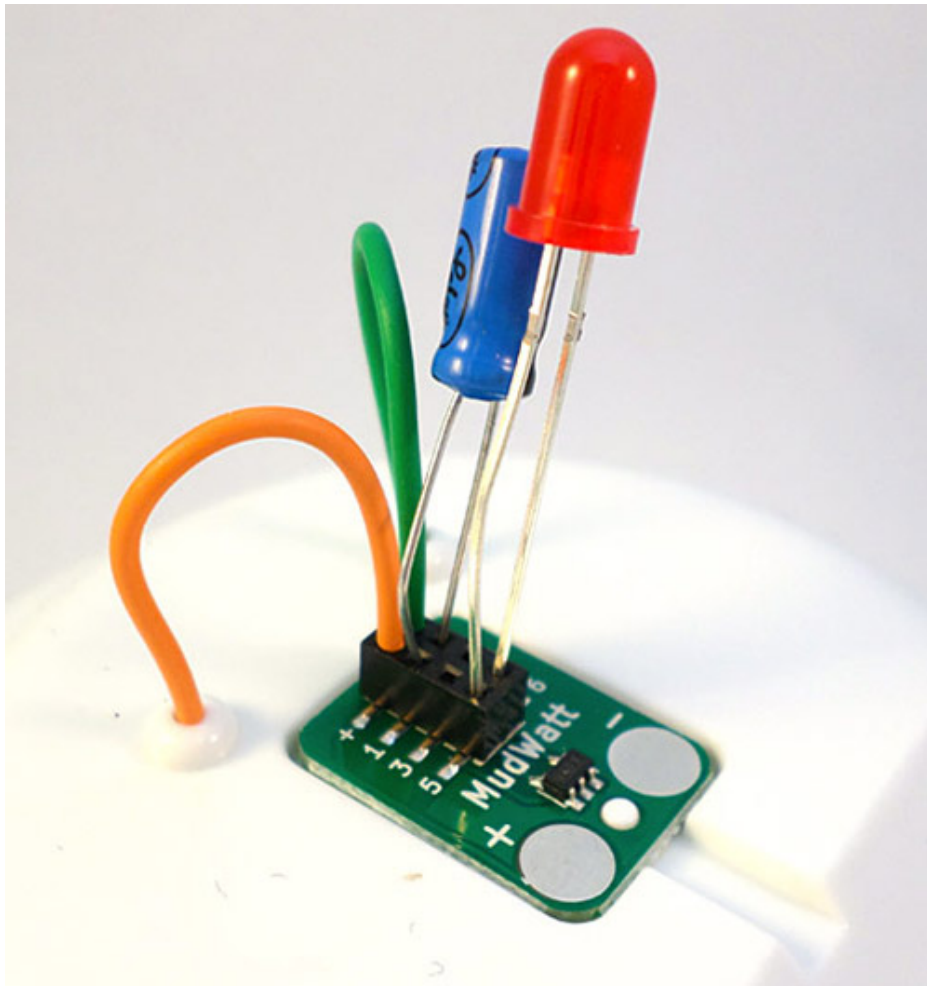

Figure 6. When you have finished assembling your MFC and its hacker board, the top should look like the one in this image.
19. Make sure that the wires, capacitor, and LED are all securely in place. The assembled hacker board on the top of the MFC should now look like Figure 6.